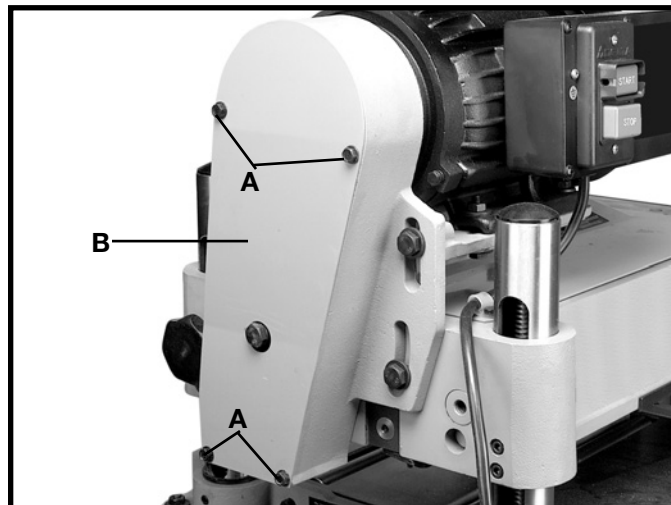

Fig. 28
1. Remove four screws (A) Fig. 28, and remove the belt and pulley guard cover (B).
3. Loosen the four screws (C) Fig. 29, and pry up on motor plate until correct belt tension is obtained. Correct tension is when there is approximately 1/4" deflection in the center span of the belts using light finger pressure. Then tighten the three screws (C) and replace belt and pulley guard cover (B) Fig. 28.